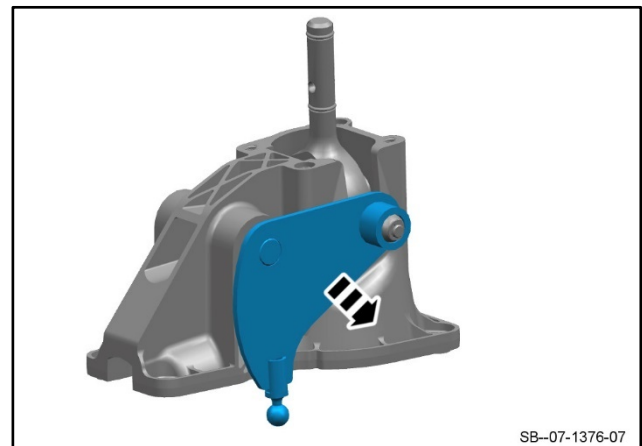

Figure 6
7. Remove the shifter assembly (refer to Figure 6).